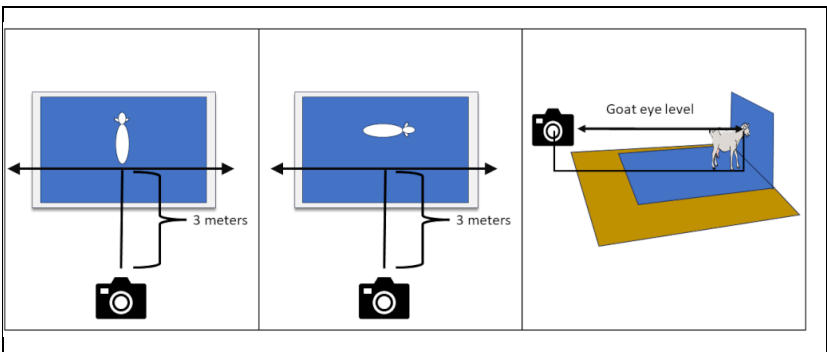

Figure 4. Camera position, 3 meters back, perpendicular to the goat, at goat-eye level.
- iii. CAMERA position (**Figure 4**)